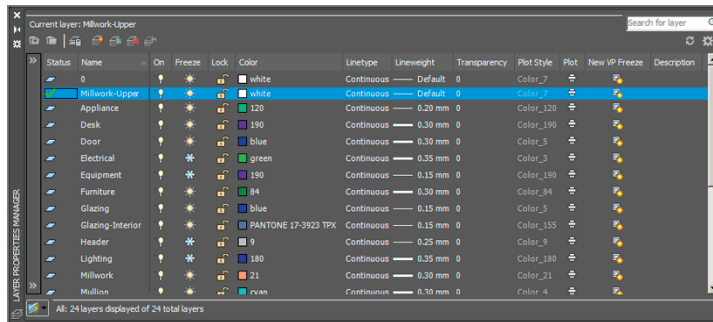

FIGURE 6.27 Maximizing the columns in the Layer Properties Manager makes them easier to read.
5. Right-click any one of the column headers to access a context menu. Choose Maximize All Columns from this menu. Figure 6.27 shows the result: The columns are all readable.